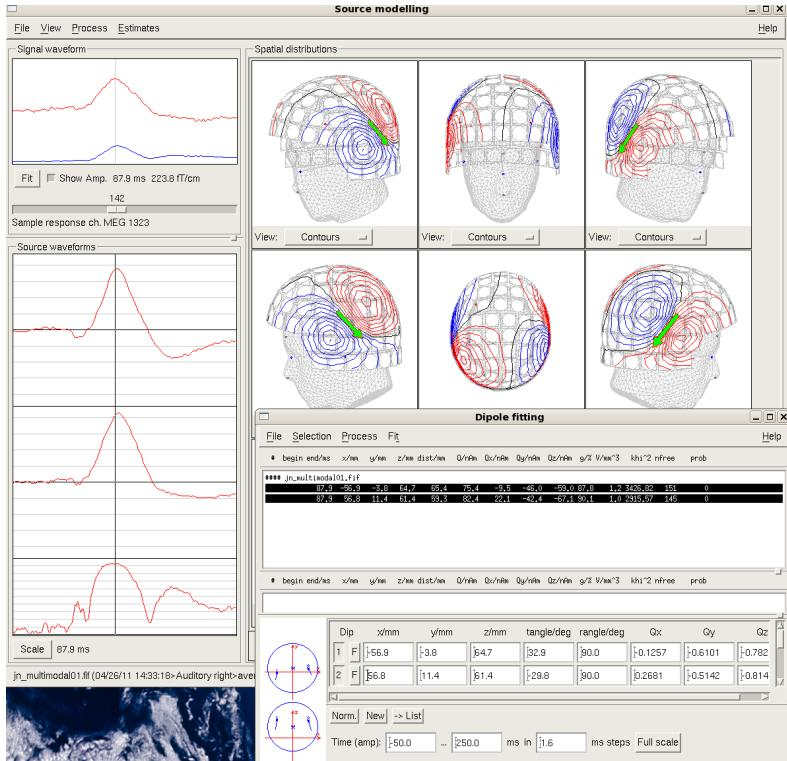

Figure 44: A two-dipole model in *Xfit*.
- Activate **Row 1** in the multidipole dialog (Figure 44, bottom window of the Dipole fitting window).
- Activate **Row 2** and add the second dipole (Figure 44).
Review the **Source waveforms**: The dipole source waveforms appear on the left frame of the Source modelling window, presenting the amplitudes of the dipoles as a function of time (Figure 44). The time scale is the same as in the signal waveform graph on top of it. The bottom curve represents the goodness of fit and tells you how many percent of your data can be explained with your dipole model.